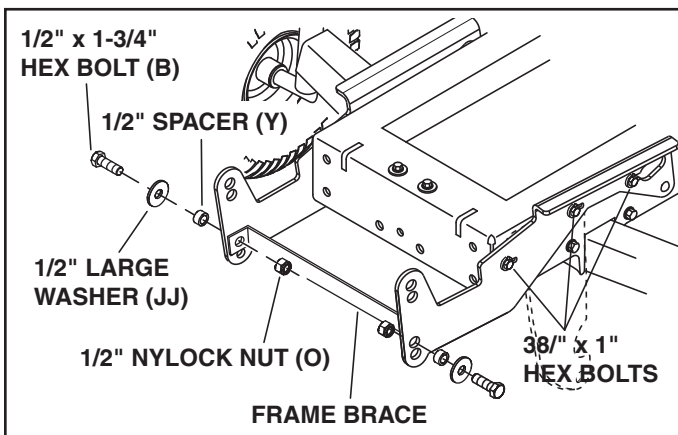

FIGURE 22
STEP 23: INSTALL FRAME BRACE (SEE FIGURE 22)
- Install the frame brace between the side plates using two 1/2" x 1-3/4" bolts (B), large 1/2" large washers (JJ), 1/2" spacers (Y) and 1/2" nylock nuts (O). Use the second hole from the bottom in the plates. **Tighten.**
- Tighten** 3/8" x 1" hex bolts (E) in side plates only until they are snug and the lock washers are flattened.